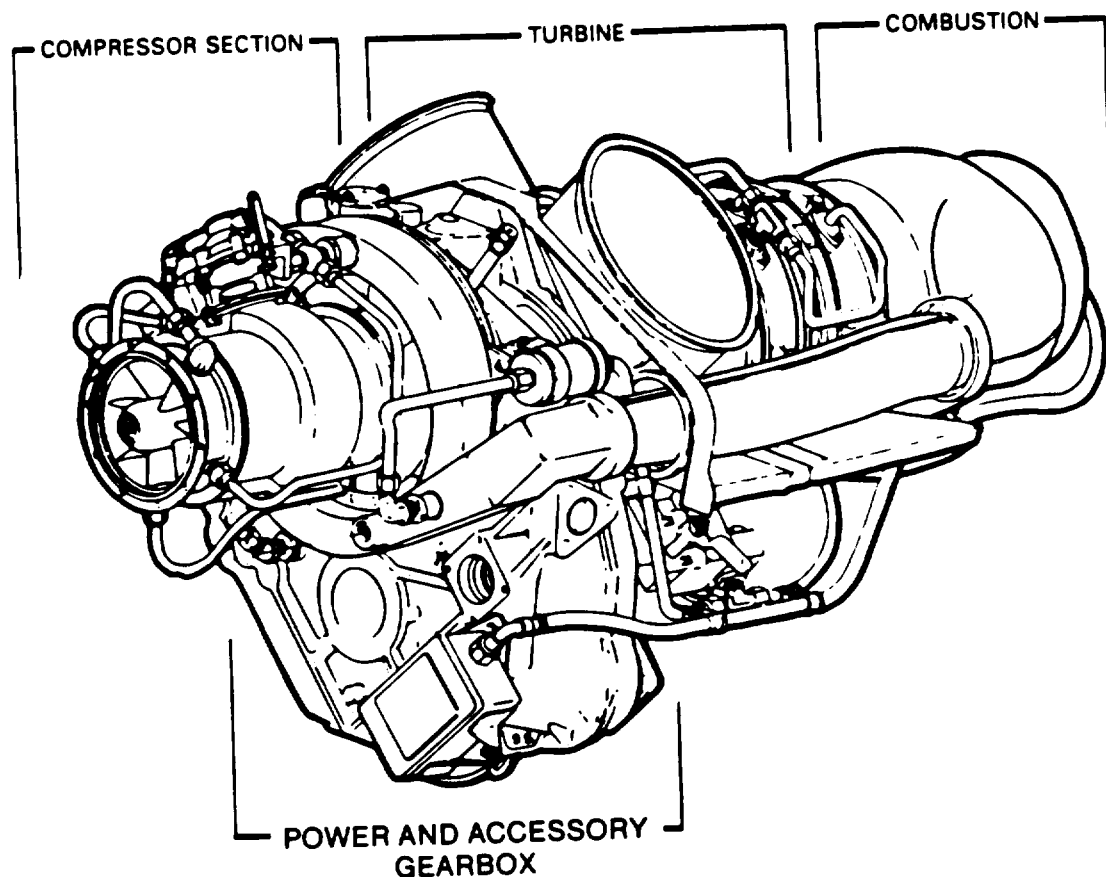

Figure 1-1. Left Side View of Engine
a. The T63-A-720 Series engine consists of a multi-stage, axial-centrifugal compressor, a single combustion chamber, a two-stage gas producer turbine, a free-two-stage power turbine, and a power and accessory gearbox. (See figure 1-1.)